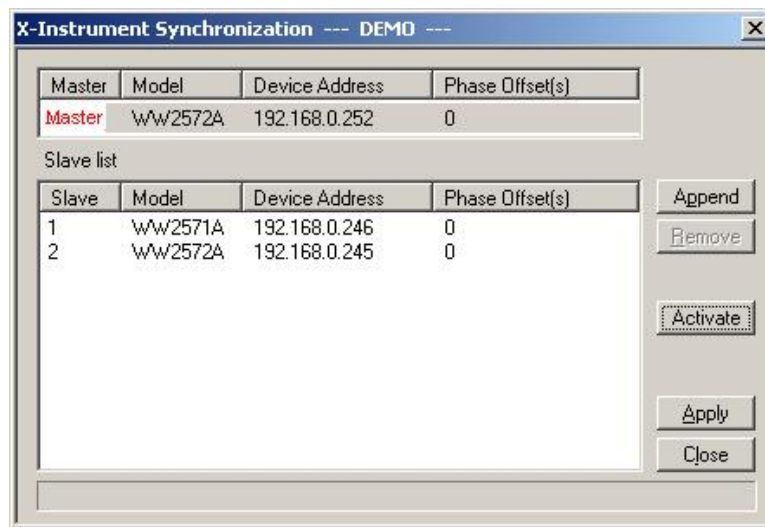

Figure 4-23, Multi-Instruments Synchronization Dialog Box Example
- The last step is to activate the synchronization. This is done from the X-Instruments Synchronization dialog box, as shown in Figure 4-23. Click on Activate to start the synchronization, click on the same button to toggle synchronization off.